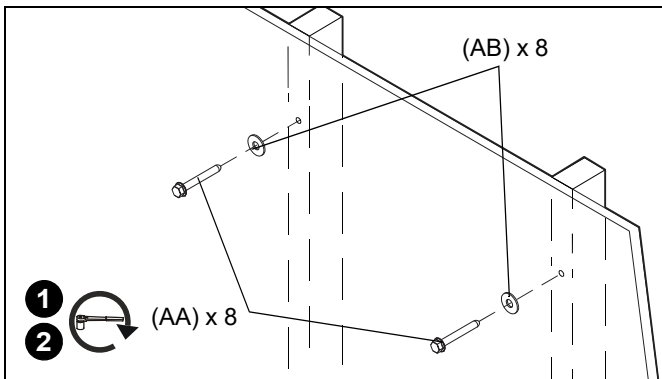

Figure 18
1. Use one 5/16" x 2-1/2" hex flange head lag bolt (AA) and one 5/16" washer (AB) through product and into pilot hole. (See Figure 18)